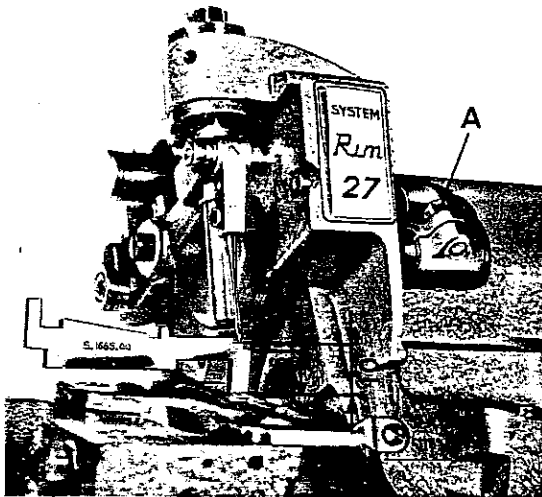

fig. 3
3. Setting needle position (fig. 3).
- To adjust height of needle bar clamp, loosen screw A (fig. 3) and check with gauge S. 1665.00.